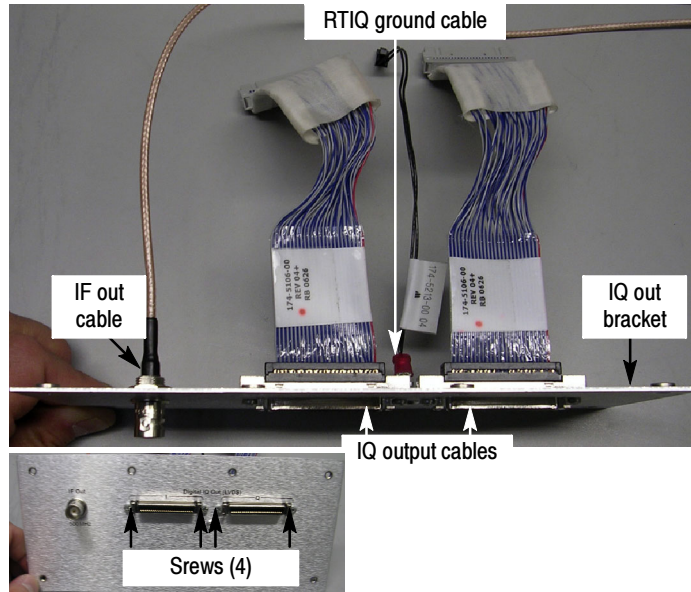

Figure 4: Connecting cables to the rear panel cover
2. Install the two IQ Output cables (Tektronix part number 174-5106-XX) on the rear panel cover (Tektronix part number 200-4962-XX) using four screws (Tektronix part number 211-0450-XX) provided in the kit. Tighten the screws using a torque driver set to 3.0 in-lb. See Figure 4.